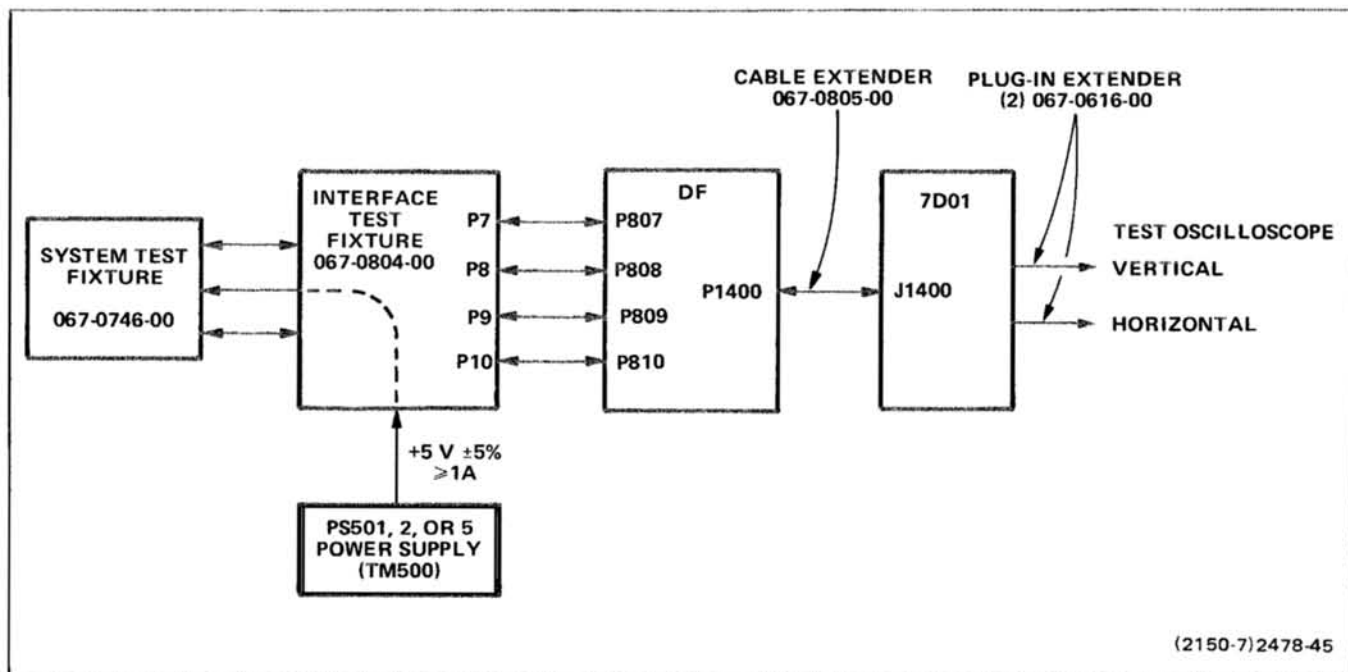
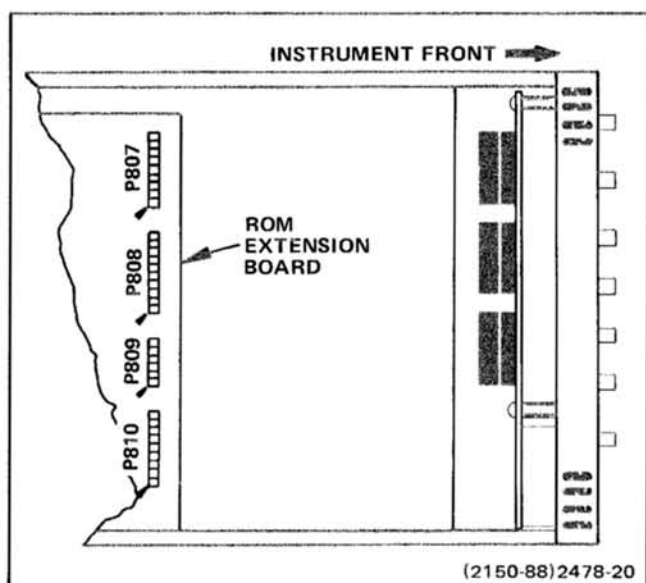

Figure 6-1. Test equipment setup for troubleshooting the DF Digital Formatter.
Figure 6-2. Partial view of ROM Extension board. Shows pin location and indexing for connection to the Interface Test Fixture.
- a. Connect test equipment as shown in Figure 6-1. The Interface Test Fixture is connected to the DF ROM Extension circuit board as shown in Figure 6-2.
c. Press the STOP button; the ABA (address bus available) indicator should light. If the ABA indicator does not light, press the RESTART button. If the ABA indicator still does not light, recheck the test equipment setup illustrated in Figure 6-1. Also, check the DF clock circuits (01, 02), reset circuit, power supplies, and the Halt line (pin 2 of U264). Check that the BA output (pin 7 of U264) is not excessively loaded or shorted (low). If the ABA indicator